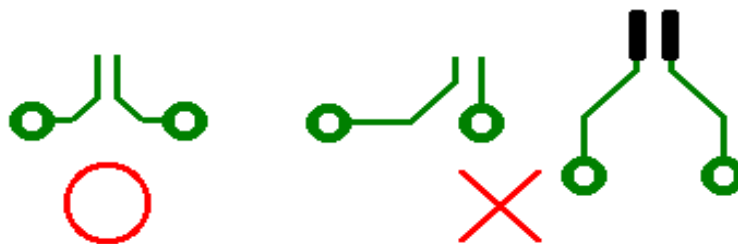

Figure 2.13
4. The crystal traces shall be symmetrical and parallel in order to get better oscillation wave form and better EMI protection (as shown in Fig. 2.13).